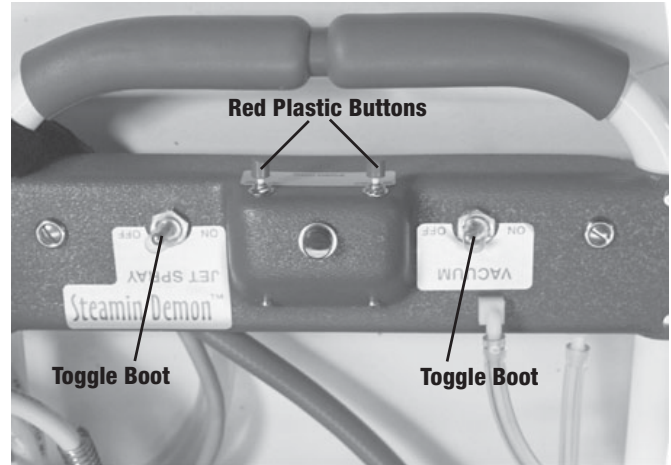

Figure 24
3. For Push Button Switches: Remove red plastic button before removing switch (fig. 24).
4. For Toggle Switches: Remove toggle boot to remove switch (fig. 24).